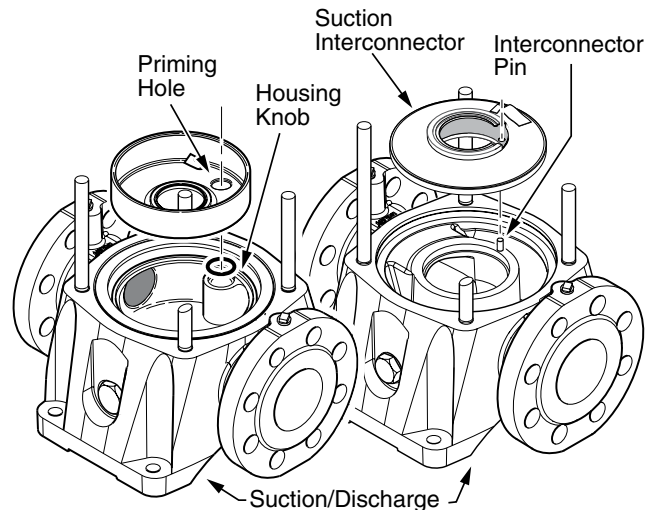

Figure 12 - BVM2, BVM4 – Align Small Priming Port. BVM8, BVM16 – Align Interconnector Pin. No alignment is necessary on BVMI/X models.
6. Remove and replace round spring ring (BVM2 and BVM4) or conic spring (BVM8 and BVM16) (14).
7. Pull the old stack (16A through 16L) out of the stainless steel sleeve (18) by pulling straight up on the pump shaft (16A).
8. Remove the stainless steel sleeve (18).
9. Remove and discard the bottom sleeve O-ring* (17).
NOTICE: Be sure to align either the small priming hole or the suction interconnector pin hole (located on the bottom stage of the stack) properly in the base of the Suction/Discharge (21). See Figure 12 (not necessary on BVMI/X models).